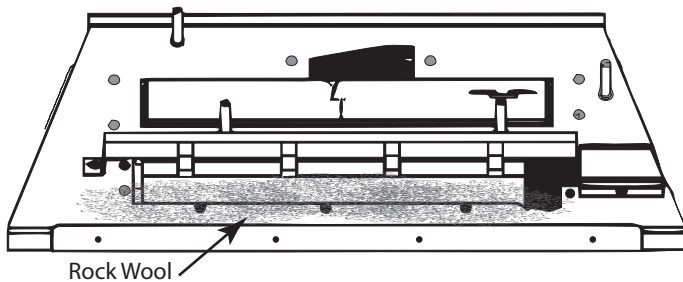

Figure 10 - Installing Rock Wool
1. Before installing logs, place rock wool in front of the grate. Loosely apply nickel size pieces to allow the gas to flow through for proper burn and not to be obstructed. Failure to do so would cause a higher level of CARBON MONOXIDE. See Figure 10.